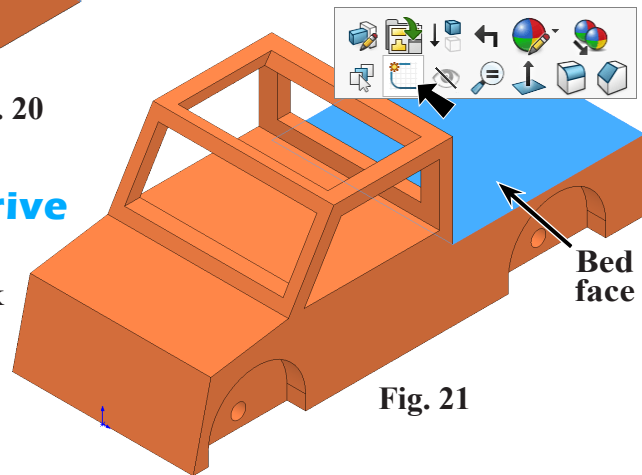

Fig. 21
Step 1. Click the **top face of Truck bed** and click **Sketch**  on context toolbar, **Fig. 21.**